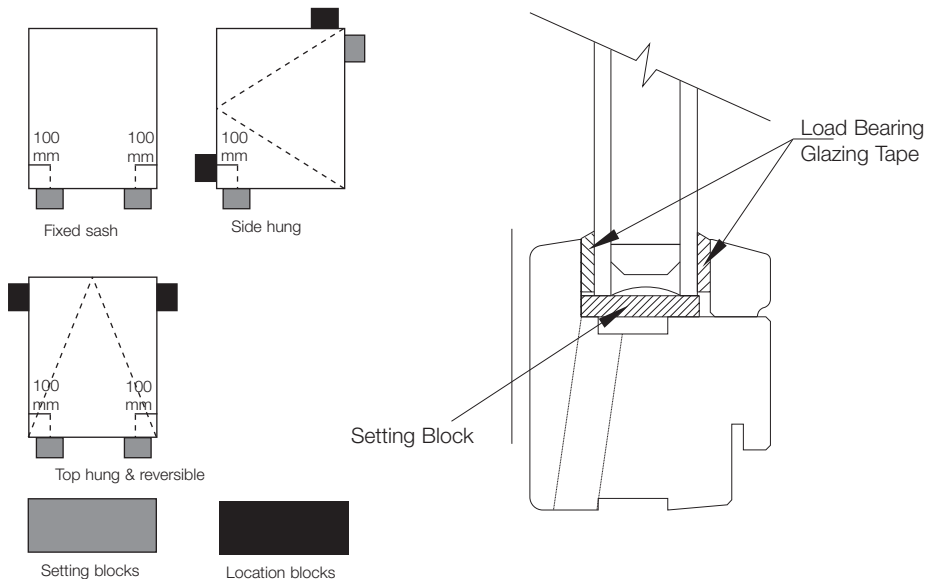

Fig 1
- F5. Place the setting blocks onto the rebate platform (see Fig 1) and insert glass unit then centralise. Apply pressure all the way round each unit to compress the tape.
- F6. Insert location blocks into opening to ensure sashes are squared and each glass unit is supported with the correctly positioned blocks. Do not add extra blocks (see Fig 1). It is recommended that location blocks are siliconed into place.